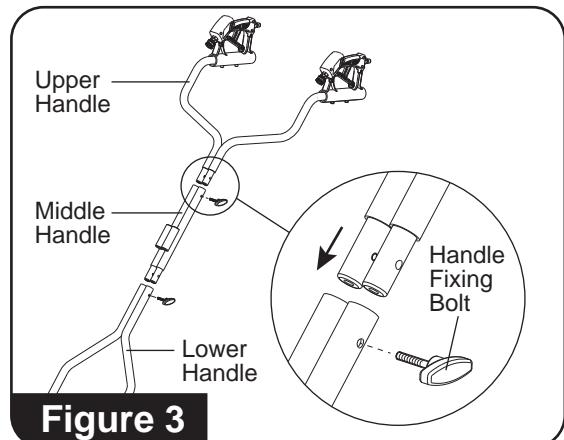

Figure 3
2. Attach upper handle and middle handle by lining up the holes in the upper handle and middle handle. Push the handle fixing bolt through the aligned hole and tighten. **(See Figure 3)**
3. Attach the upper handle and middle handle assembly to the lower handle assembly by lining up the holes in the middle and lower handles. Push the handle fixing bolt through the aligned hole and tighten. **(See Figure 3)**